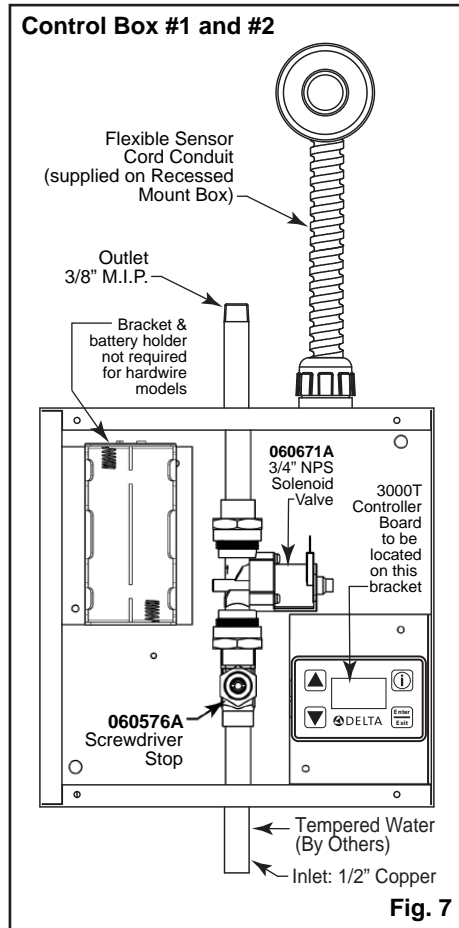
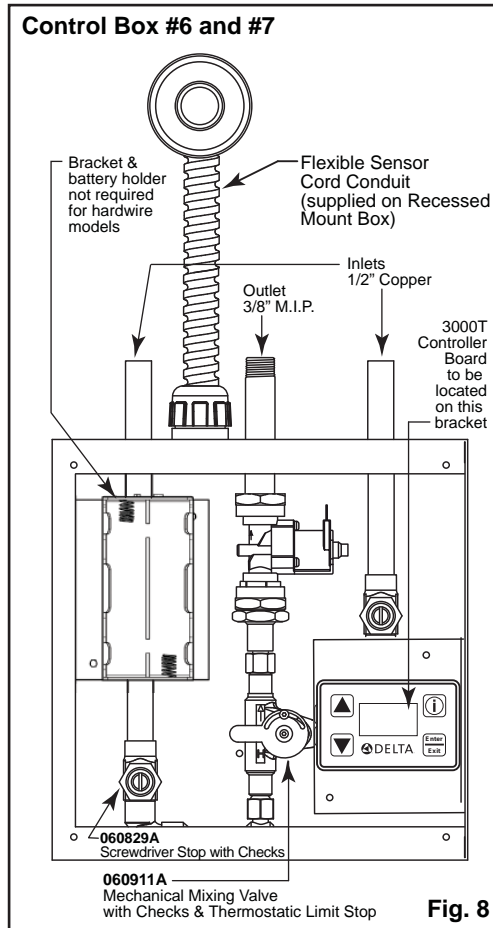

Fig. 7
Fig. 8
Install sink and connect drainage to rough in. See applicable Fig. 7, Fig. 8 or Fig. 9. Please note that the connection tube and fittings are supplied by the installer to connect the 3/8" MIP at the box outlet and compression joint for 3/8" O.D. Soft copper tube at the spout. Connect water supply through to spout. Assure supply lines are completely flushed and free of debris.
- 4C** If **Mechanical Mixing Valve** (060911A) (Fig. 8). Adjust setting to the desired temperature and lock in place by tightening the vandal resistant screw.